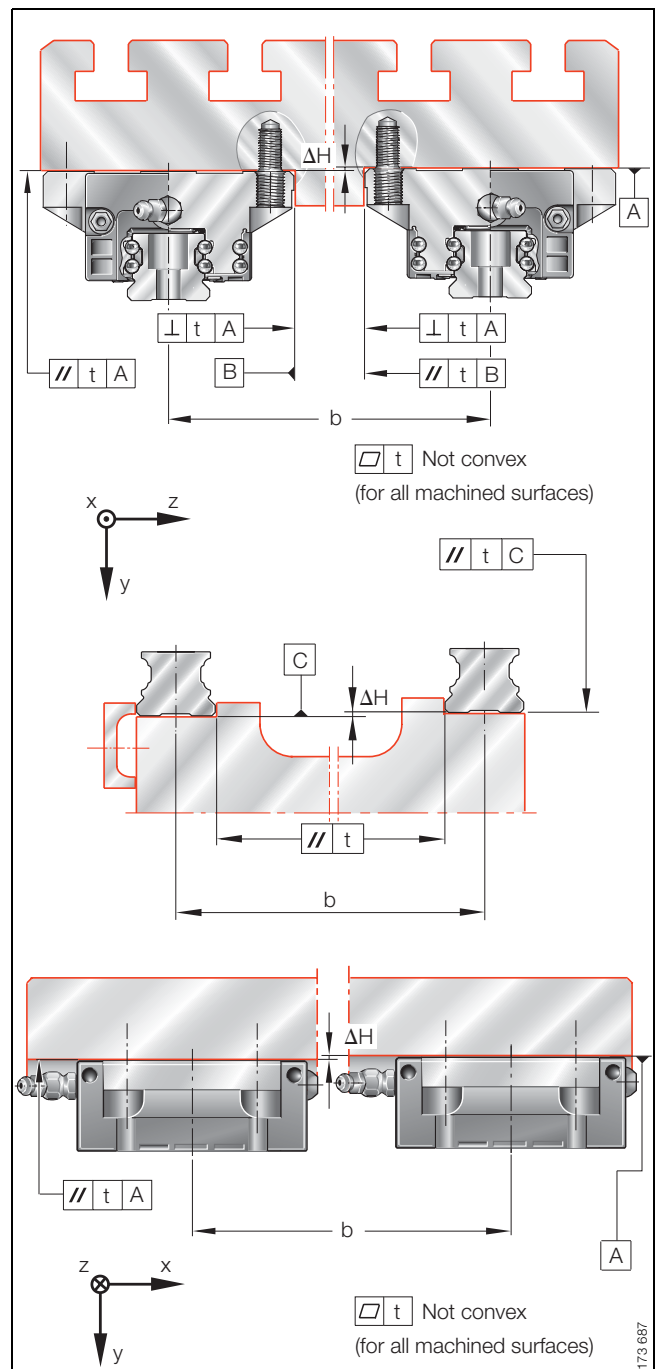

Figure 6 · Tolerances of mounting surfaces and parallelism of mounted guideways
- The tolerances in Figure 6 and Table 5 must be adhered to
The permissible values for ΔH (Figure 6) are given by the formula below. If larger deviations are present, please consult INA.
For guideways arranged parallel to each other, the parallelism value t given in Figure 6 and Table 5 should be adhered to.